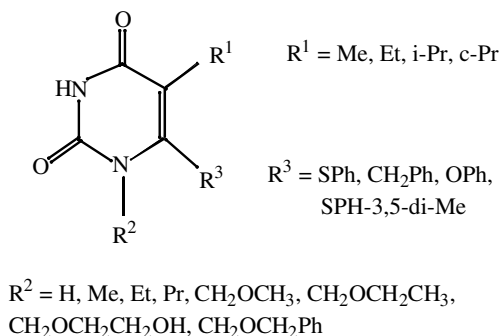
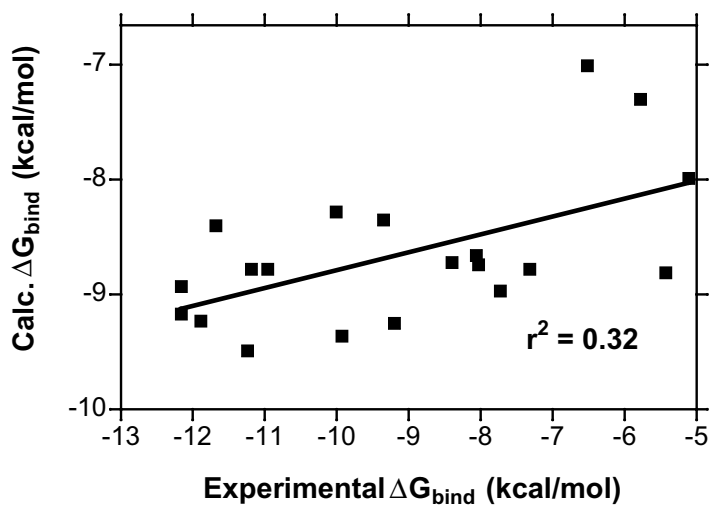
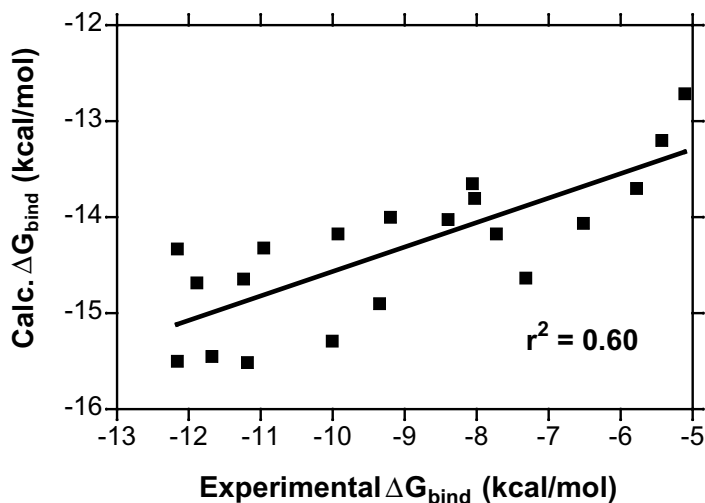

Figure 8.2. Substituents for the HEPT series of inhibitors for HIV-RT.
Figure 8.3. Correlation of calculated (GlideScore) and observed binding affinities for Glide 3.5 SP docking of HEPT inhibitors into HIV reverse transcriptase.
Figure 8.4. Correlation of calculated (GlideScore) and observed binding affinities for Glide 3.5 XP docking of HEPT inhibitors into HIV reverse transcriptase.
The Jorgensen group has been a leader in the development and testing of linear-response approaches for systems of pharmaceutical interest using explicit-solvent methods. An initial application to HIV reverse transcriptase examined the binding of 20 HEPT and 20 nevirapine analogs (*J. Med. Chem.* **2001**, *44*, 145–154). More recently, this work has been extended to encompass 200 different inhibitors covering 8 chemical classes (*J. Med. Chem.* **2002**, *45*, 2970–2987). Nevirapine is a FDA-approved anti-HIV drug of the non-nucleoside inhibitor class, and one of the HEPT analogs (MKC-442) has been in clinical trials. As shown in Figure 8.2, the variation in the R² sidechain is particularly sizable, ranging from hydrogen to methyl benzyl ether. It would be very difficult, and very time consuming, to examine structural variations of this magnitude using free-energy perturbation methods.
Figure 8.3 shows the result obtained in the Glide 3.5 SP dockings, while Figure 8.4 shows the results obtained using Glide 3.5 XP scoring. As can be seen, SP Glide gives only a very rough correlation of the docked GlideScore values (shown as the calculated ΔG_{bind} values) with the experimental binding affinities. This is not surprising, as correlating experimental binding affinities will be beyond the capabilities of Glide docking and scoring in some cases, because of the limitations of rigid-receptor docking discussed above. Figure 8.4 shows that XP docking and scoring gives a considerably better correlation.
The results of applying the LiaisonScore binding energy model, using energy-minimization sampling and starting from the Glide 3.5 SP docked geometries for the ligands, are shown in Figure 8.5. The correlation is much tighter and the largest outliers are gone, showing that relaxation of the protein and docked ligand geometries has improved the results. These GlideScore values, unlike those in the previous two figures, have been put on the scale of the experimental binding affinities by applying the linear transformation shown in Equation (1). Thus, the predicted values now cover the approximately same range as the measured values. The slope of the fitted least-squares line is still less than 1, but is larger than those seen in Figure 8.3 and Figure 8.4.
Normally we would expect even better results from energy-minimization sampling followed by rescoring in Liaison when starting from the XP-docked poses. This indeed is our recommended procedure. In this instance, however, the results obtained using the same two models gives correlations that are better than those shown in Figure 8.3 but are not as good as those in Figure 8.4 and Figure 8.5. This is counterintuitive, especially in view of the fact that XP docks only one ligand in a manner that is inconsistent with the other cases, and here the variation merely consists of a reversal of the positions adopted by the pseudo-symmetric C-R1 and N-R2groups (see Figure 8.2). In contrast, SP Glide docks three ligands in an inconsistent, and presumably incorrect, manner.